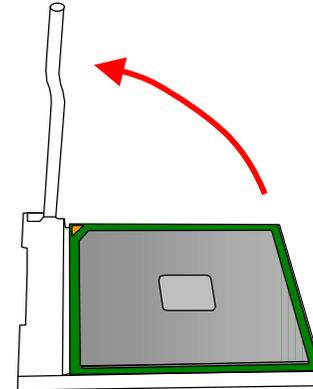

Figure 2-9 Remove the CPU
6. To remove the existing CPU, lift the socket arm up to the vertical position. (Figure 2-9)